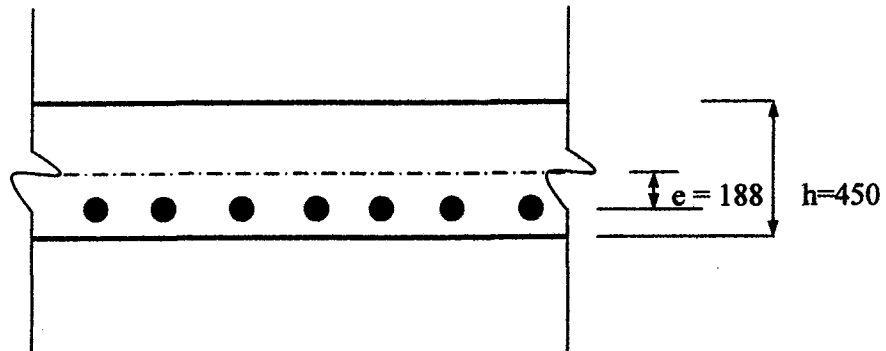

Fig. 2 Post-tensioned prestressed concrete slab
- (c) List FIVE (5) factors influencing the wind pressure on a bridge. (5 marks)
- (b) A solid slab of post-tensioned prestressed concrete bridge deck is simply supported over a span of 20 m. The relevant data of the solid slab is given below. See Figure 2.